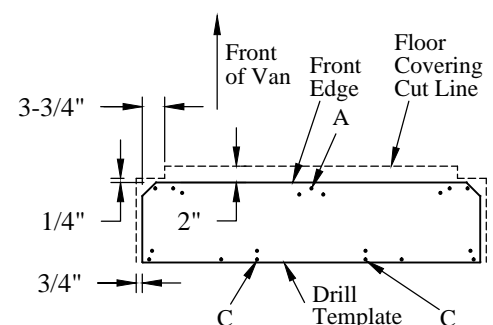

Figure 6: Floor covering cut location (top view).
6. **Mark** the floor covering around the template, leaving clearance as shown (Figure 6).